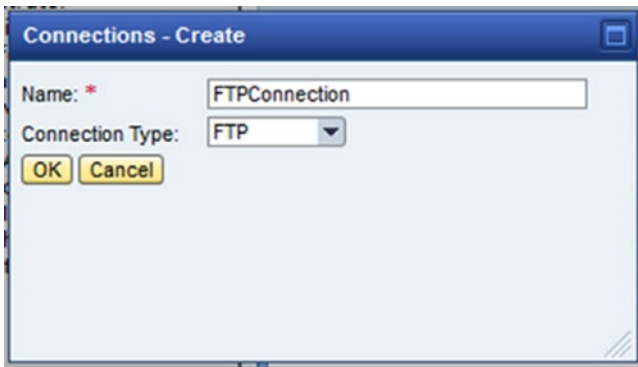

Figure 6-92. Creating an FTP connection
3. Provide a name for the connection. Select FTP for the connection type and click on OK. See Figure 6-92.